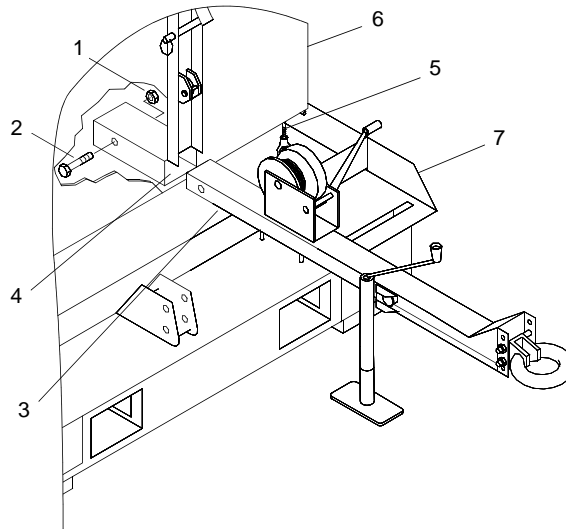

Figure 7. Drawbar Removal
20. Remove nut (figure 7, item 1) and bolt (figure 7, item 2) securing drawbar (figure 7, item 3) to drawbar receptacle (figure 7, item 4).
21. Loosen and remove turnbuckle (figure 7, item 5) from light tower (figure 7, item 6) and pallet (figure 7, item 7).
22. Using assistant, remove drawbar (figure 7, item 3) from light tower (figure 7, item 6).
23. Stow drawbar (figure 7, item 3) beneath light tower (figure 7, item 6) and secure on both ends with tie downs to the pallet.
24. Install turnbuckle (figure 7, item 5) on light tower (figure 7, item 6) and pallet (figure 7, item 7) and tighten.